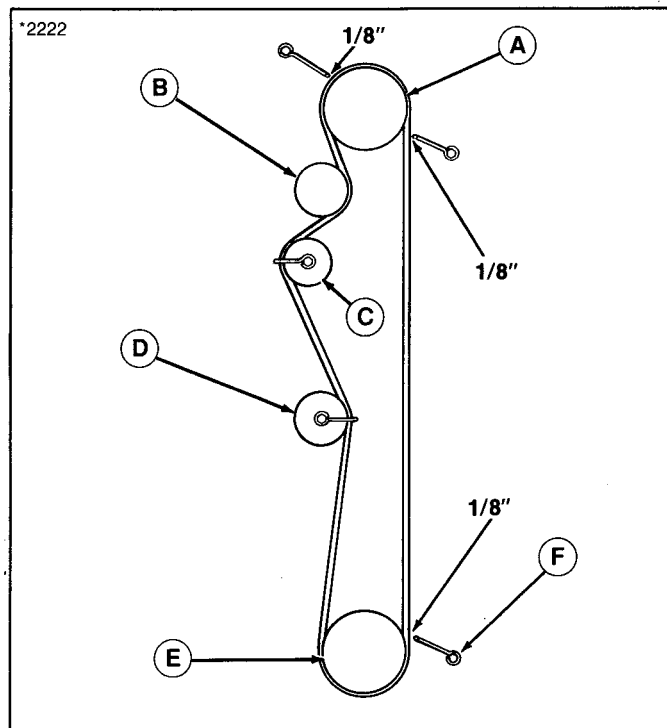

Figure 27. Belt Diagram
4. Remove the tractor belt from the engine pulley (A) and allow to rest on top of the PTO pulley.
5. Loosen the belt stop on the idler pulley (B) and remove the belt.
6. Loosen the capscrew securing belt stop (J) and remove belt from idler pulley (D).
7. Loosen the belt stop (F, figure 27) and remove the belt from the transmission pulley (E).
8. Remove the belt from PTO pulley (F) and tractor.
9. Install the new belt by reversing the procedure. Be sure the V side of the belt is against all the pulleys except the flat idler pulleys (B and D, figure 26 and 27). The belt diagram is shown in figure 27.
10. Reinstall belt over idler pulley belt stop (J) and tighten capscrew. Make sure pulley can rotate freely after installation.
12. Perform "Tractor Brake Adjustment" and all belt stop adjustments. Make sure belt stop (F, figure 27) is positioned 1/8" from transmission pulley (in the forward position).
Reference letters in Figure 26 are same as reference letters A thru E in Figure 27.